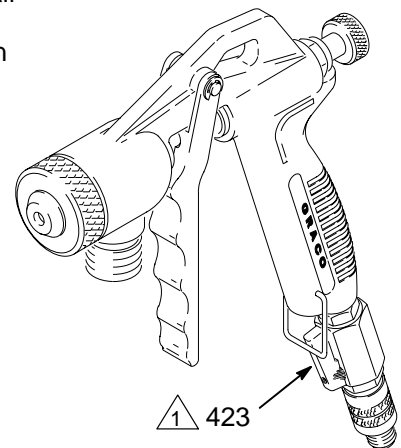

Fig. 6
How to relieve pressure: Be sure the gun air valve (423) is open (the handle parallel to the valve body), which relieves compressor air every time you shut off the system. See Fig. 6.
2. Air bleeds from the gun nozzle whenever the gun air valve (423) is open. Close the valve to stop the air, if desired. Otherwise, it can stay open except during priming. See Fig. 6. See page 10 for more gun characteristics.